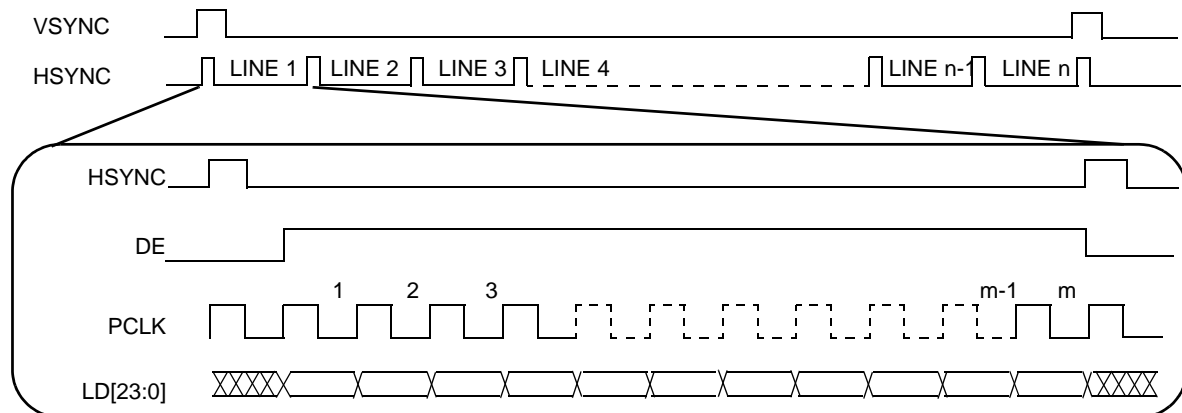

Figure 23. TFT LCD interface timing overview¹
Figure 23 depicts the LCD interface timing for a generic active matrix color TFT panel. In this figure signals are shown with positive polarity. The sequence of events for active matrix interface timing is:
1. In Figure 23, the “LD[23:0]” signal is “line data,” an aggregation of the DCU's RGB signals—R[0:7], G[0:7] and B[0:7].